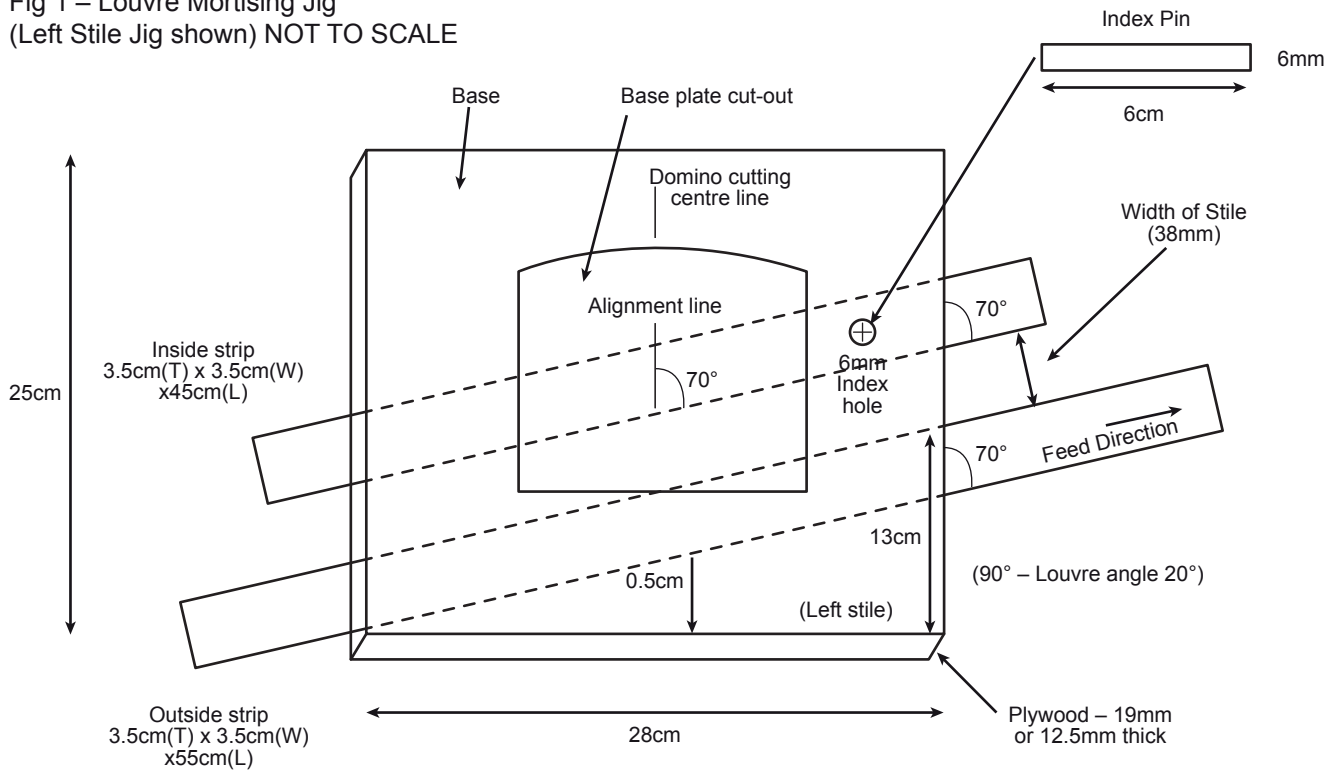

Fig 3 – Finding the centre point
- 8** Run a centre line between the two strips on the jig as shown in Figure 3, and mark a line 30mm from the cutout edge to intersect the centre line, which gives a centre point.